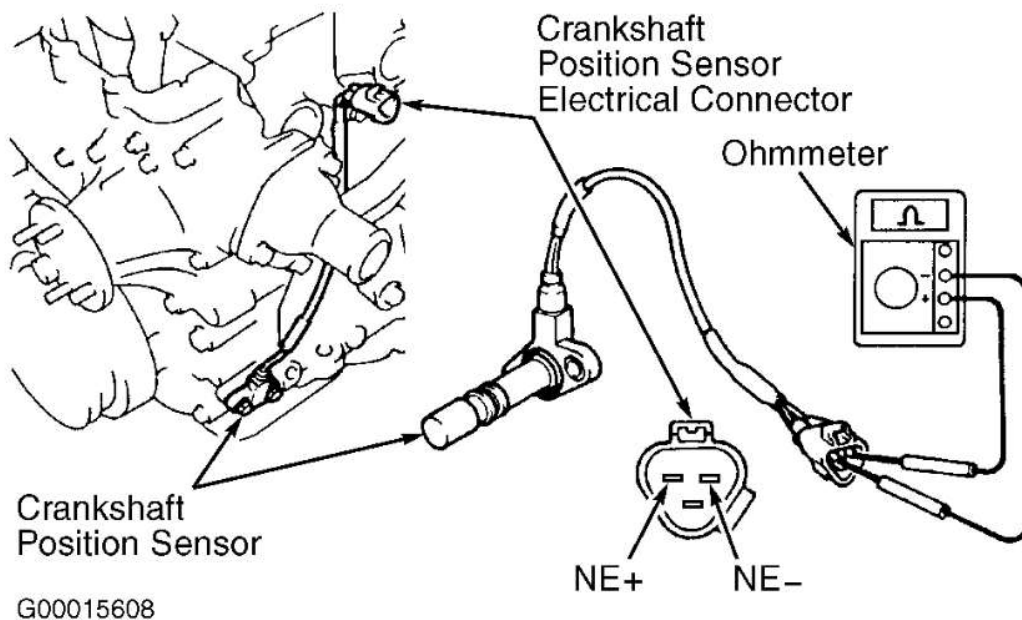

Fig. 52: Locating & Checking Crankshaft Position Sensor (Tacoma)
1. Crankshaft position sensor is located near crankshaft pulley, just above oil pan on driver's side of engine. See **Fig. 52** .
3. Using ohmmeter, check resistance between NE- and NE+ terminals on crankshaft position sensor. See **Fig. 52** . Replace crankshaft position sensor if resistance is not within specification. See **CRANKSHAFT POSITION SENSOR RESISTANCE** table. Reinstall crankshaft position sensor.